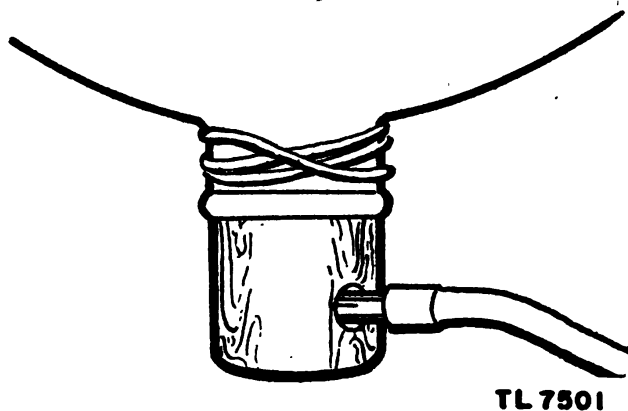

FIGURE 5. *Sealing balloon attached to Nozzle ML-186.*
b. Pull the neck of the ceiling balloon over the plug end of the cylinder of Nozzle ML-186, and secure it there with two rubber bands or with a cord tied with a square knot (fig. 5).